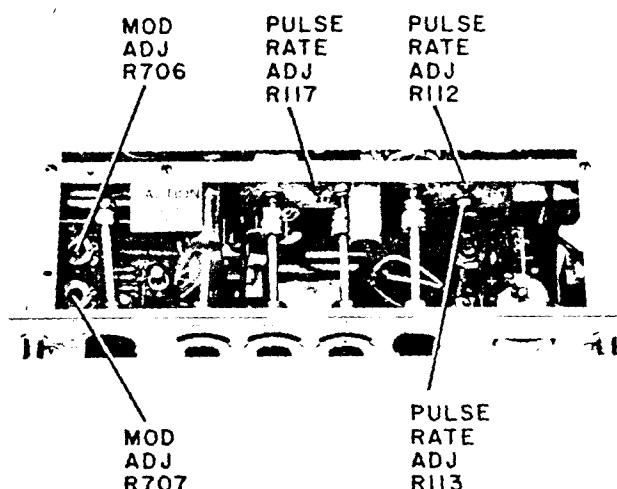

Figure 5-8. Location of Klystron and Modulator Adjustments (618C)
c. With the MOD. SELECTOR set to CW, adjust R707 (Figure 5-8) for a klystron cathode current of 25 mA maximum (approximately 15 mA).
c. Adjust potentiometer R112 (Figure 5-8) so that the counter indicates 4800 Hz.
e. Adjust potentiometer R113 (Figure 5-8) so that counter indicates 480 Hz.
g. Adjust potentiometer R117 (Figure 5-8) so that counter indicates 30 Hz.